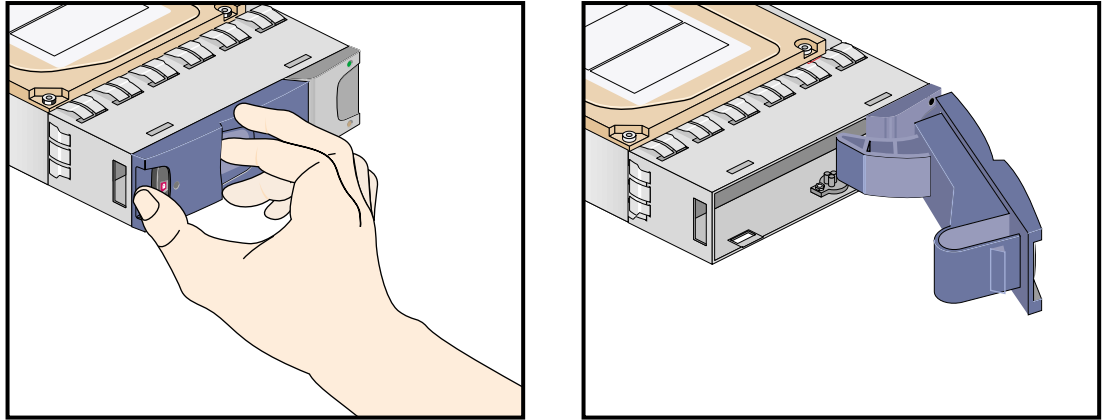

Figure 6-2 Opening the Module Handle
4. Open the handle of the replacement carrier by pressing the latch handle towards the right (see Figure 6-2).